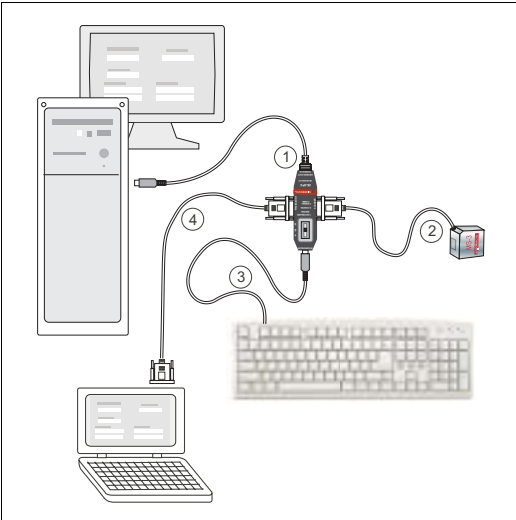

Figure 2-5 Alternative Configuration Setup
3. Connect the IB-3 PC (1) to the MS-3 (2) at the 15-pin "SCANNER" connector.
4. Connect the keyboard (3) to the IB-3 PC with the PS/2 plug.
5. Connect the IB-3 PC's cable (1) (extending from the "KEYBRD OUT/ POWER IN" end) into the host's keyboard port.¹
6. Connect the DB-9 serial communications cable (4) to the host's RS-232 serial port (figure 2-4) or to an alternative configuration computer as shown in figure 2-5.